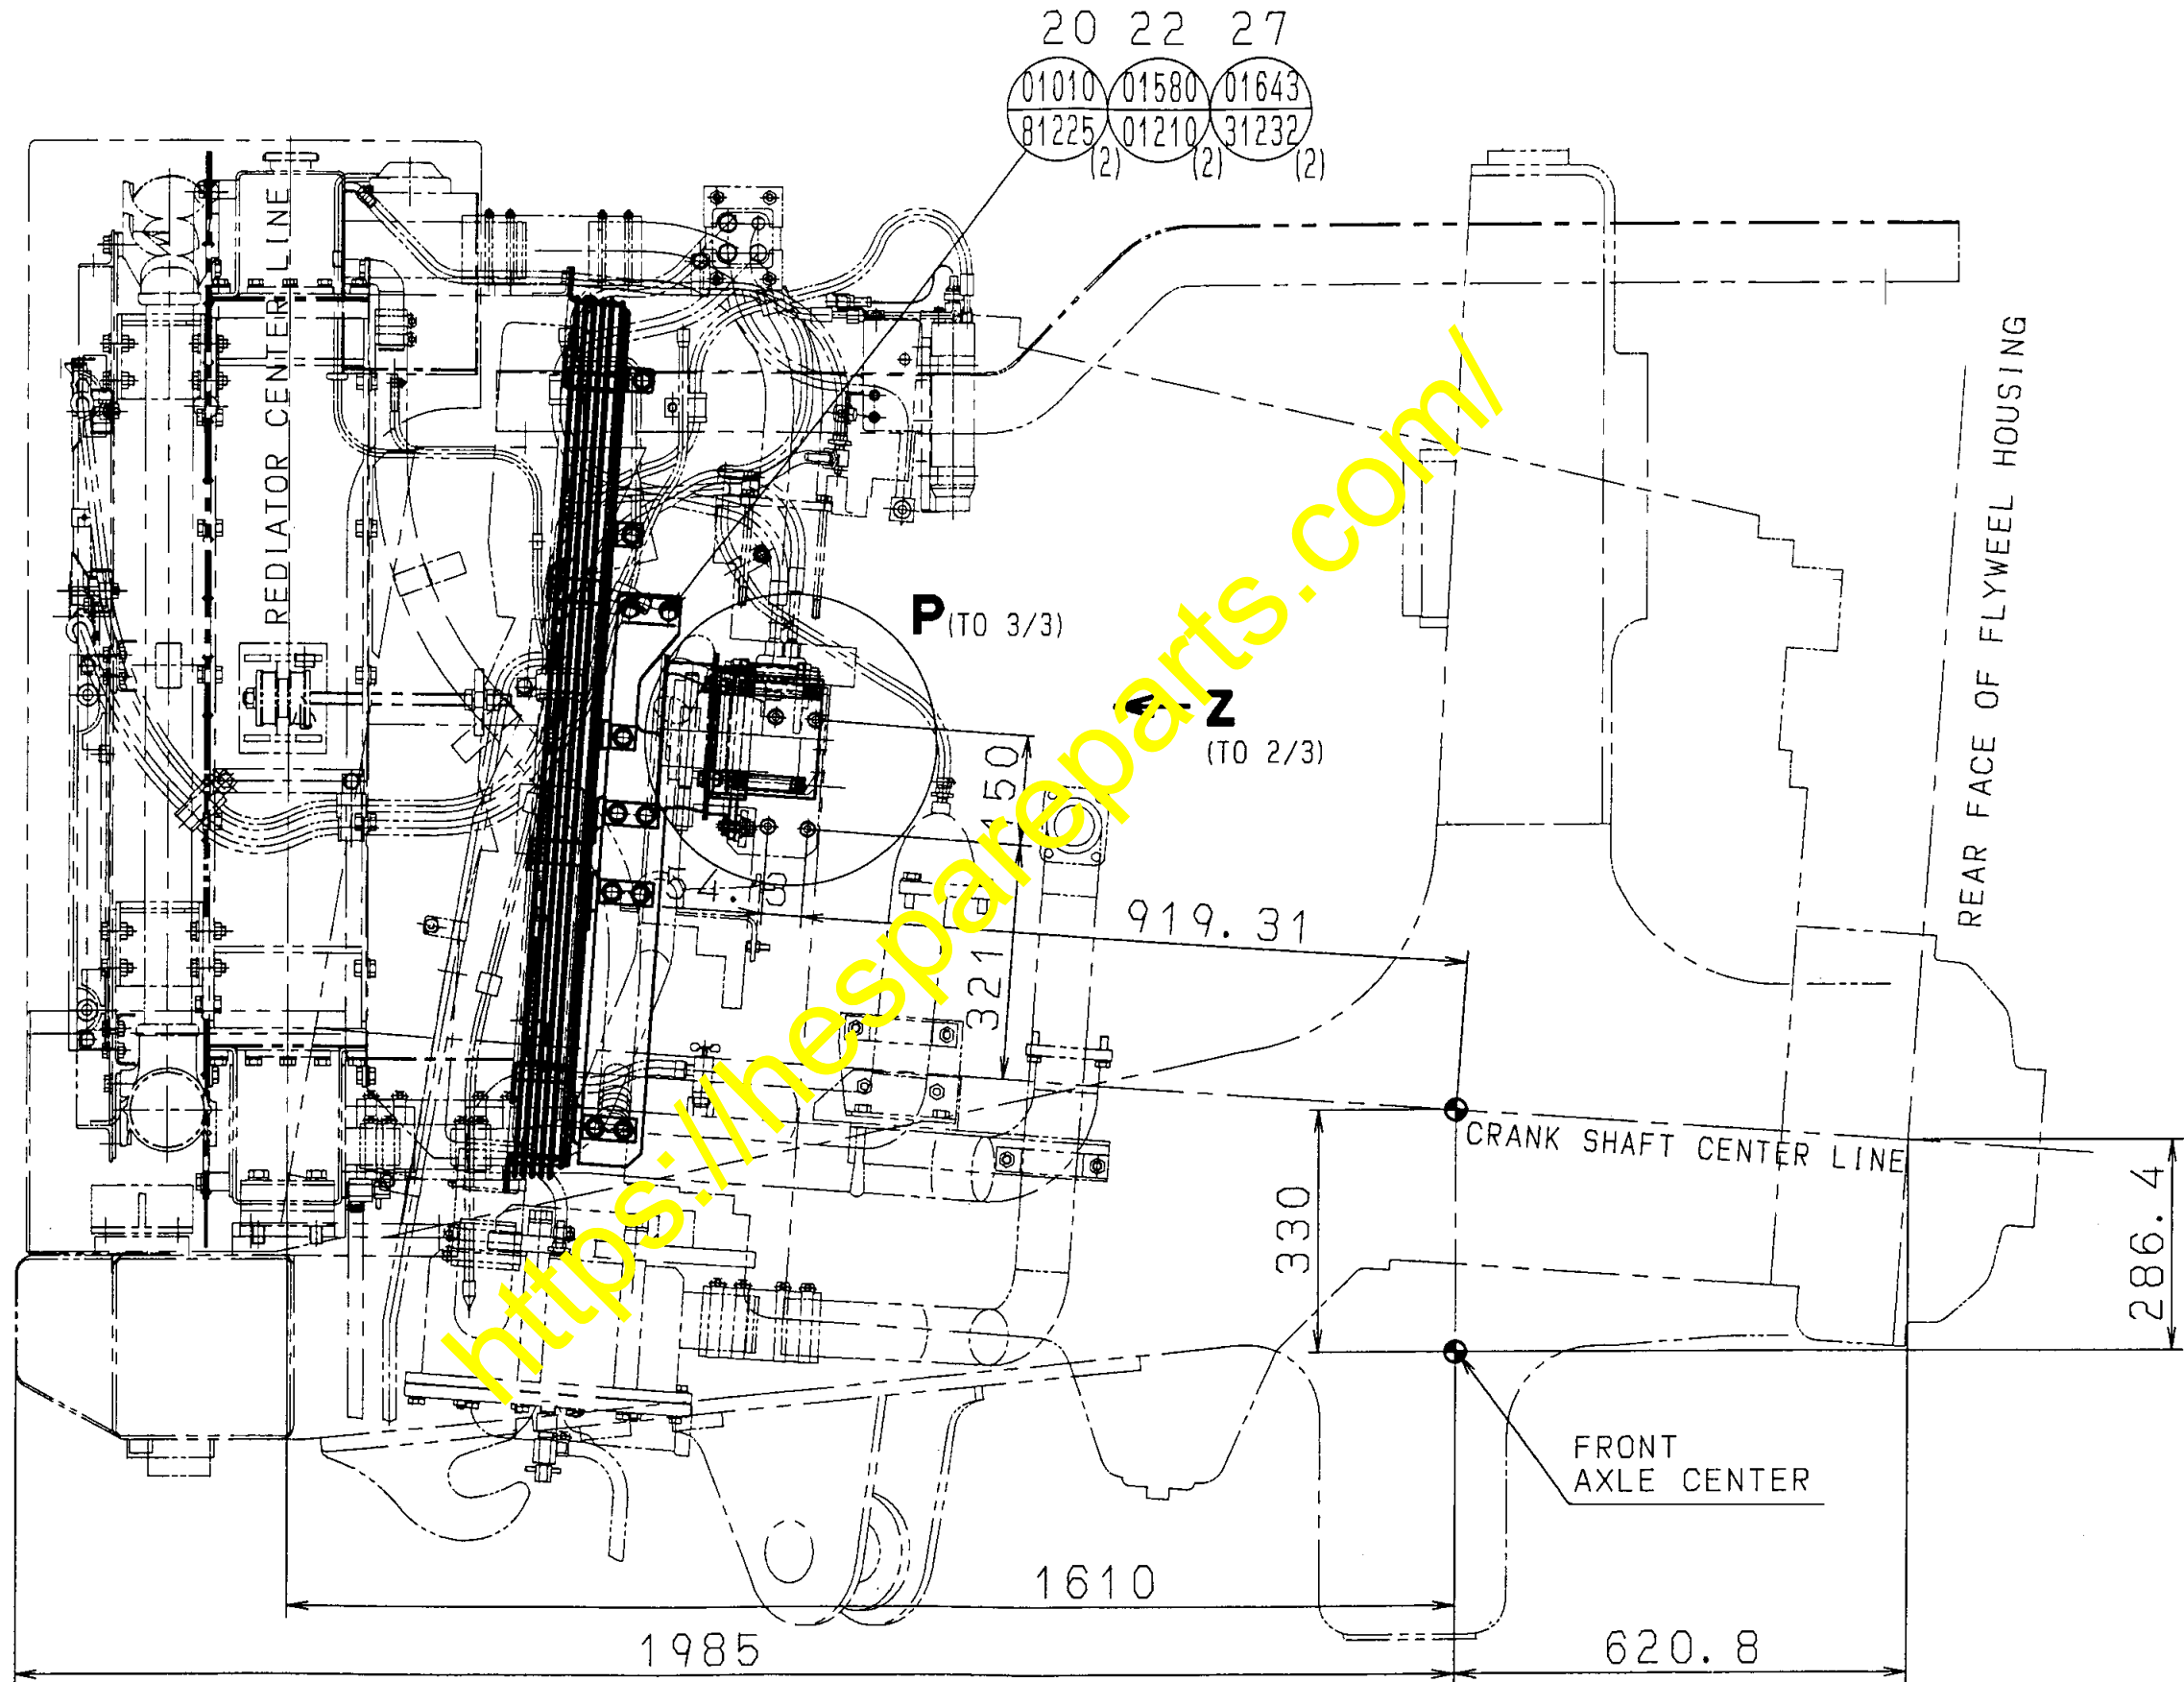

Fig. 5 Installing the fan belt cover and the air conditioner compressor cover (1/3)
(4) Tighten the bolts 20, nuts 22 and washers 27 to fasten the covers 3 and 4. (Refer to Fig. 5.)